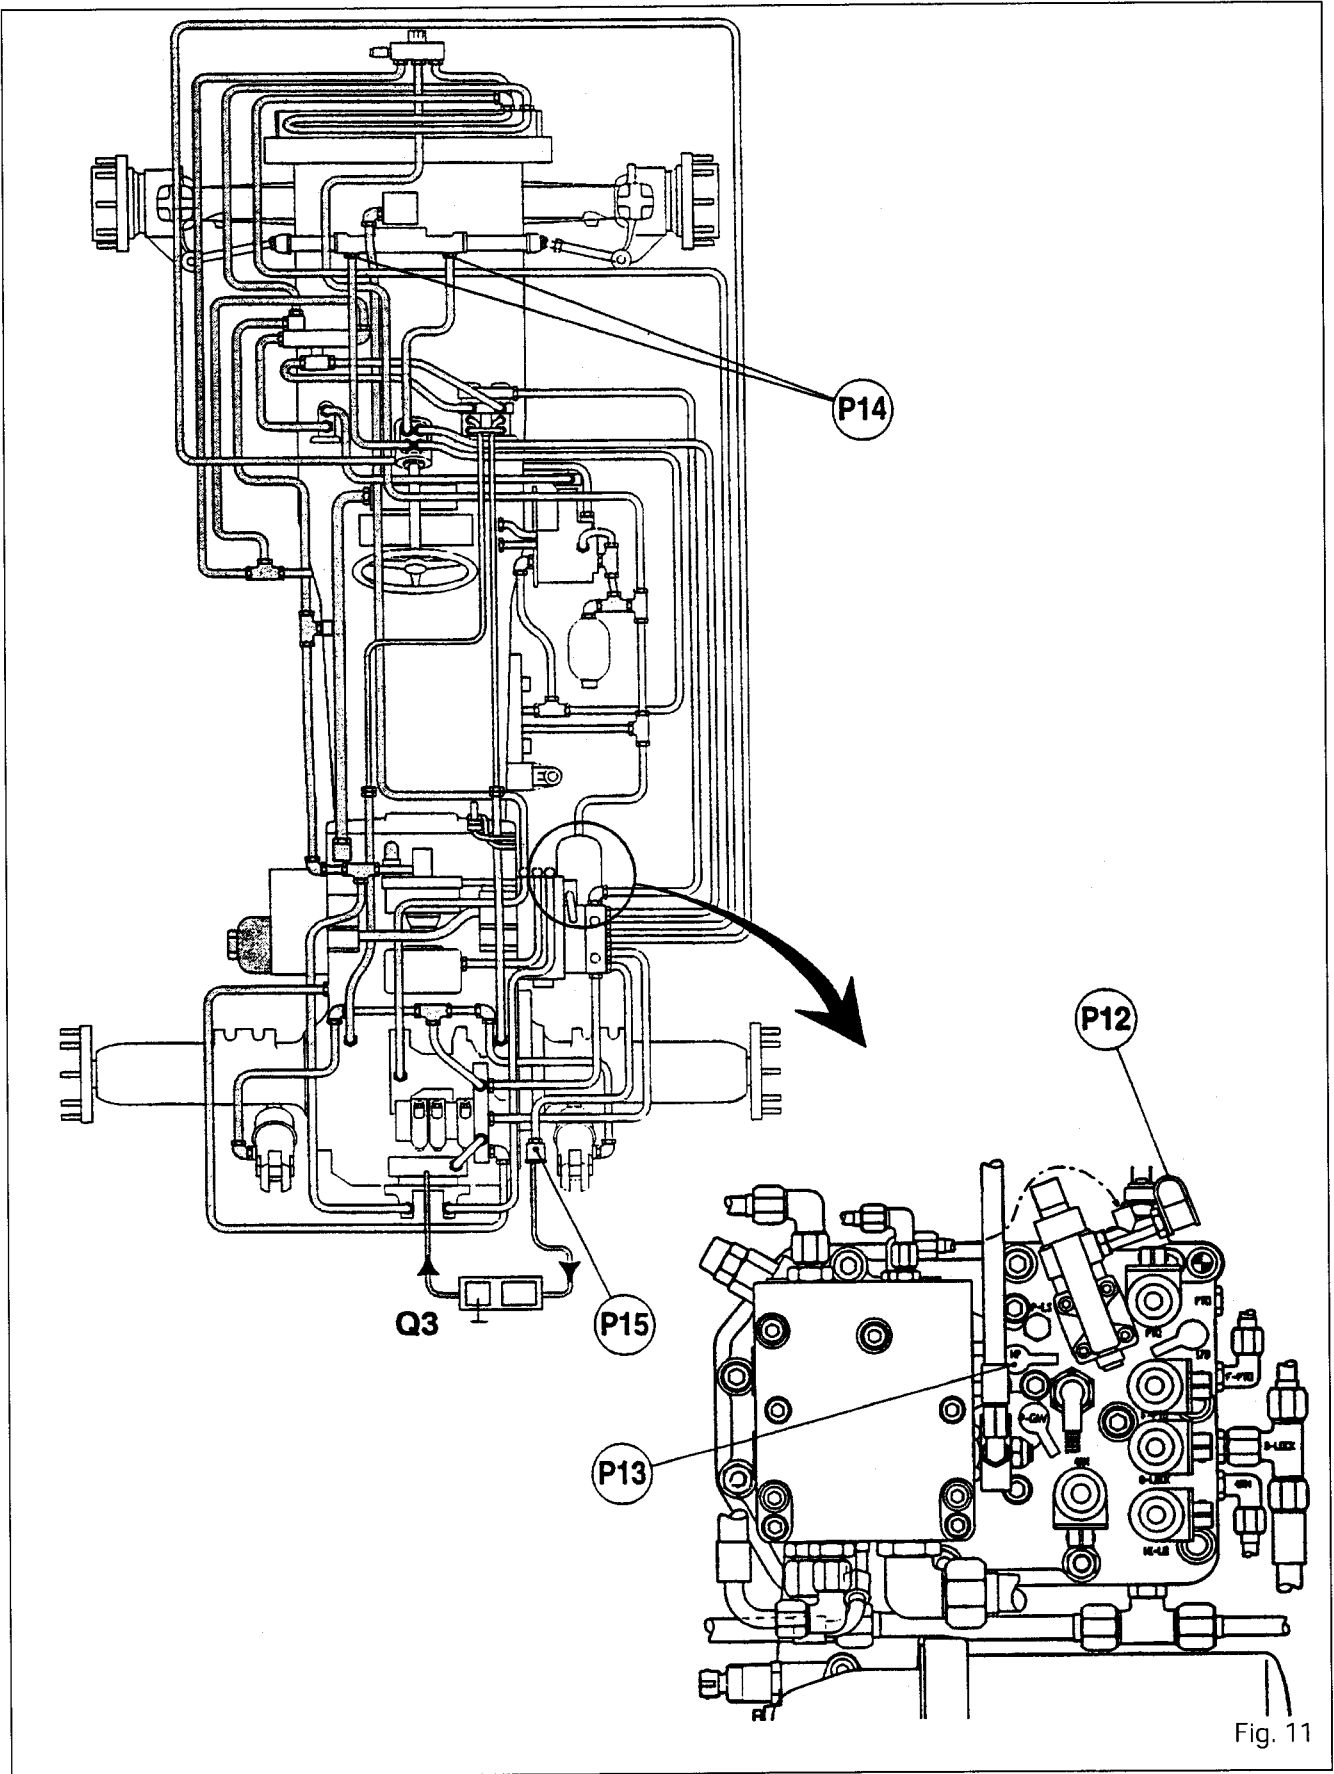

Fig. 11
- Slowly turn the steering wheel and check that **P12** and **P13** gradually increase (Fig. 11).
- Apply pressure with the calibrating pump (Fig. 11):
- Connect a pressure gauge to the quick coupler on the trailer brake system (Fig. 11) to read **P15**.